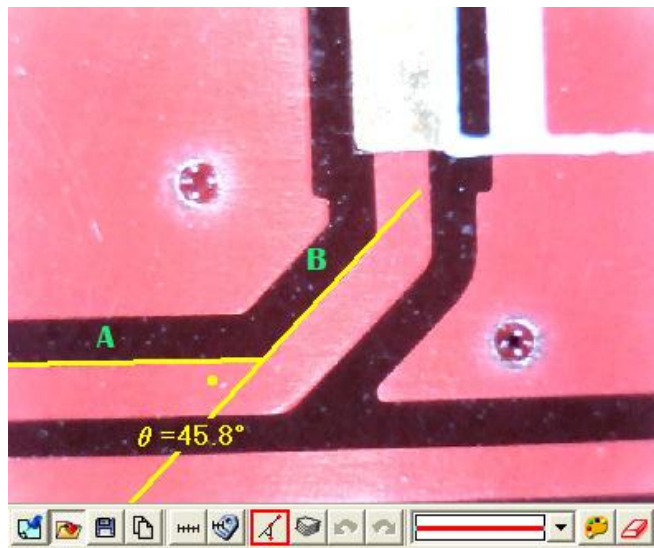

Fig 5-69 3 Points Fillet
- (8) 3 Points Fillet: Measure chamfer and use . Draw first line on the angle (see line A) and press the left mouse button to drag a line on the other side of the angle (See line B) to calculate the chamfer. See Fig 5-69. There is a small dot inside the chamfer and shows 45.8° .